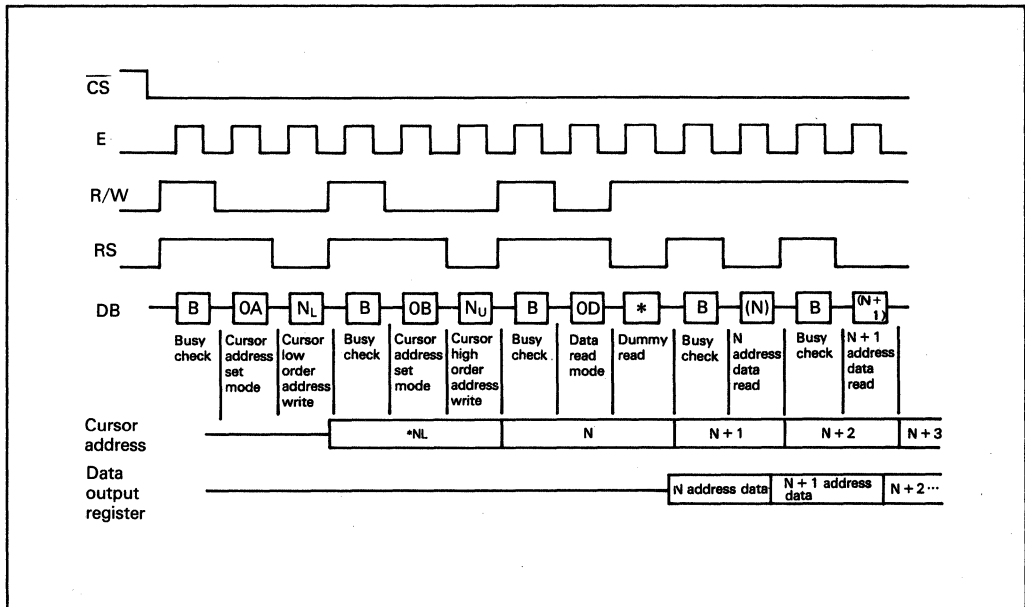

Figure 1 Read Procedure
9. Read Display Data: Data can be read from the RAM with RS = 0 after writing code "\$OD" into the instruction register. Figure 1 shows the read procedure.